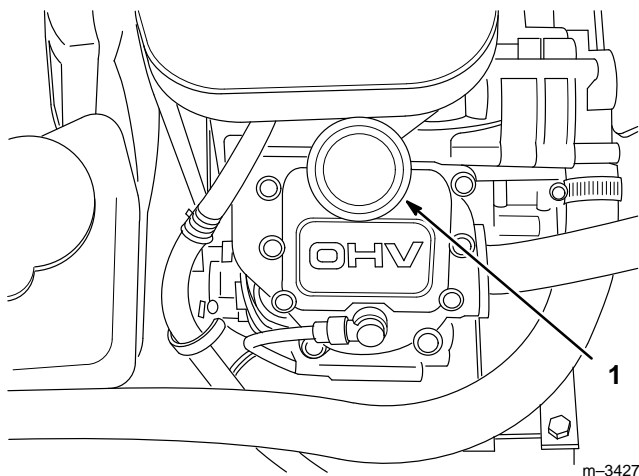

Figure 30
6. Remove the oil filler cap (Fig. 30) and refill the engine with a high-quality, API Service SG or SH engine oil (see viscosity chart).
7. Slowly pour approximately 80% of the specified amount of oil into the filler tube (Fig. 30). Now check the oil level; refer to Checking the Engine Oil Level, page 14. Slowly add additional oil to bring the oil level to the FULL mark on the dipstick.